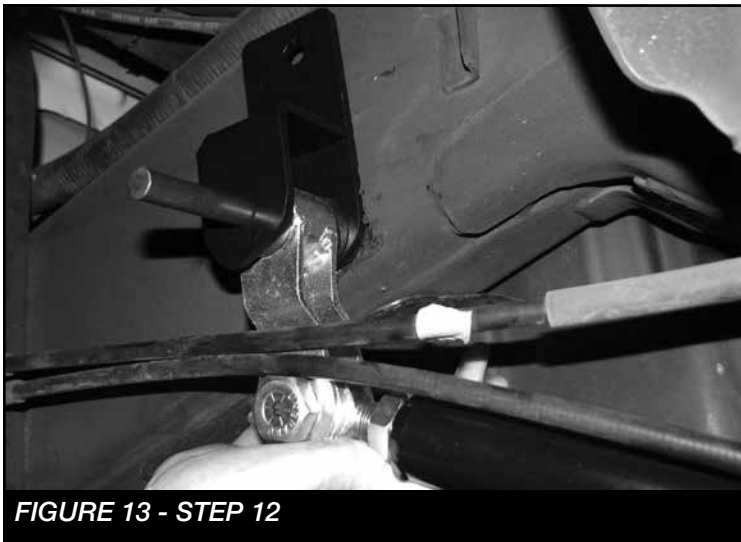

FIGURE 13 - STEP 12
11. Install the FT1004 (Bushings) and FT66 (Sleeve) into FT90018 (Shackle). Using the supplied 3/4" x 2-1/2" hardware for the front and 3/4" x 3-1/4" for the rear. Mount the shackle to the front. The shackle needs to be offset so the traction bar is away from the frame. Using the hardware mount the traction bar up to the rear lower portion first. **SEE FIGURE 13**
12. Using a center punch, mount FT20760 (Driver front frame mount) to the traction bar and shackle. Swing the bracket up to the frame and mark both holes for drilling. **NOTE: The frame mount and shackle need to be straight up and down prior to marking. SEE FIGURE 13**